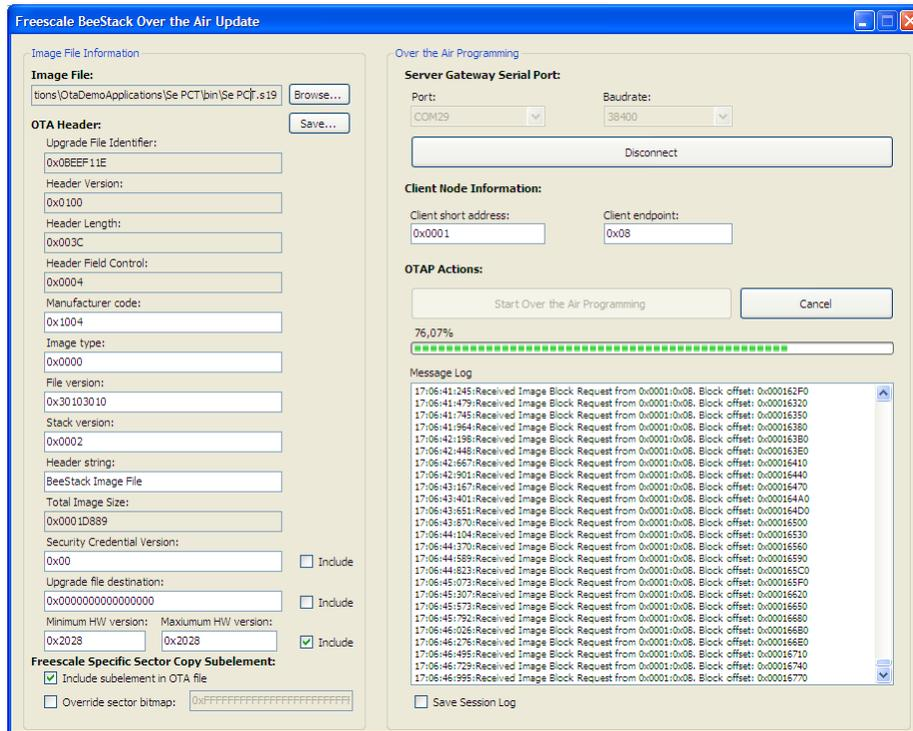

Figure 10-6. Checking OTA Update Progress
- Click Start Over the Air Programming. This uses the SE Energy Service Portal OTA ZTC server to start pushing the PCT image to the current In Premise Display board and displaying the progress as shown in Figure 10-6.